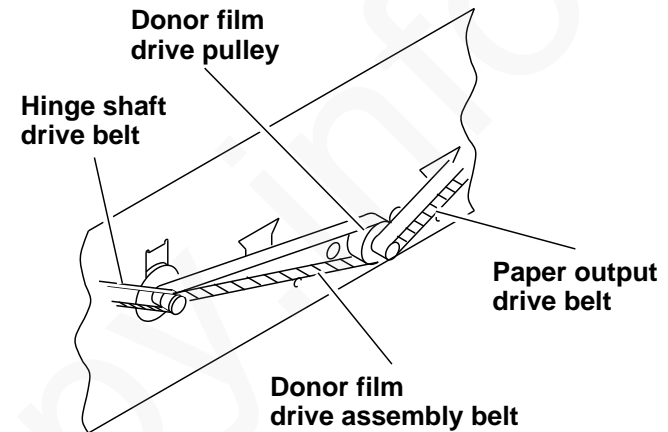

Figure 23. Donor film drive belt removal
- a. Remove upper printer frame hinge shaft drive belt (Figure 23).